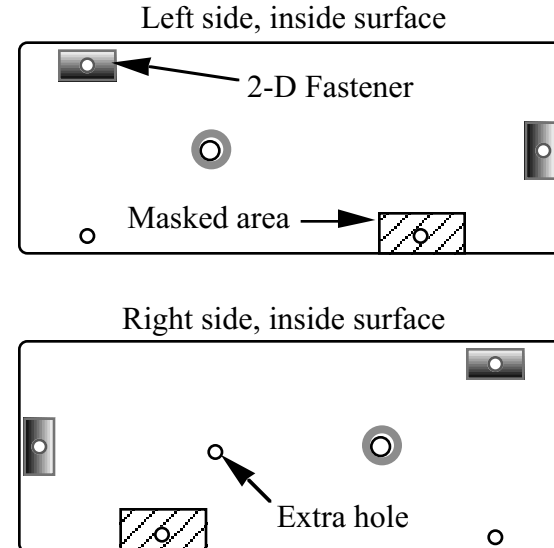
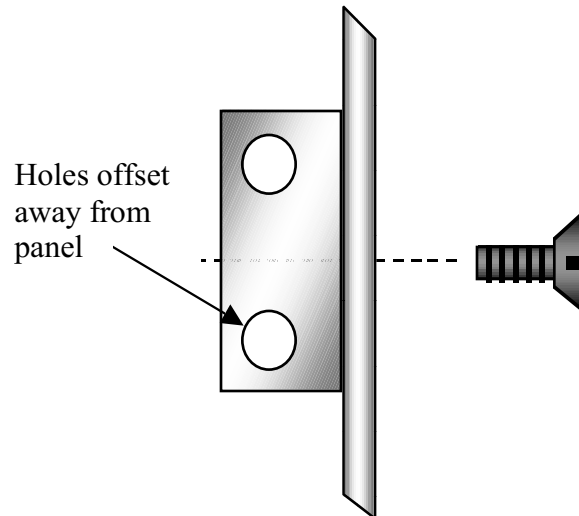

Figure 6-10
Figure 6-11
- Locate the two side panels and arrange them as shown in Figure 6-10, with the inside surfaces facing up. The right side can be identified by the presence of an extra hole as shown. The illustration also shows where 2-D fasteners will be installed, as well as the areas which were masked during painting.
□ Attach two 2-D fasteners to each side panel at the locations indicated in Figure 6-10. (Make sure that the holes are countersunk; if not, you may be working with the wrong side of the panel.) Use one 3/16" (4.8 mm) flat-head screw to hold each 2-D fastener to the side panel (Figure 6-11). The two unused holes on each fastener must be offset *away* from the side panel as shown.